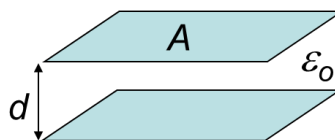

Figure 3[c]
- [c] A capacitive transducer consists of two parallel plates of diameter 2 cm each and separated by an air gap of 0.25 mm as shown in Figure 3[c]. Calculate the displacement sensitivity.